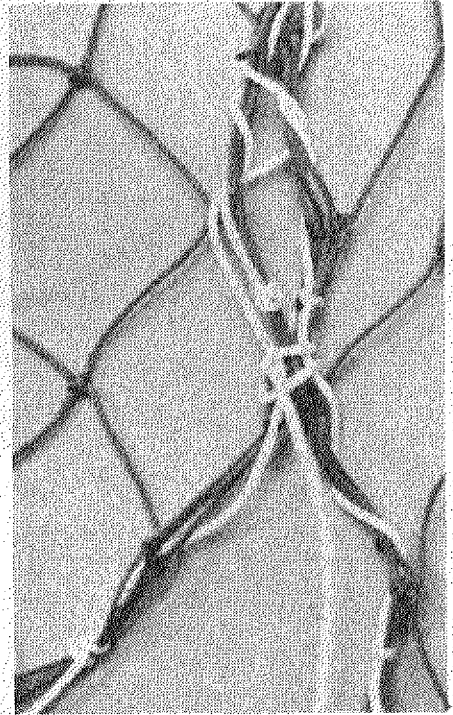

Fig. 10.
The towing bridle, as well as the short bridles between the towing bridle and the plumb staffs (see Fig. 10& 11) are best made of 1/2-inch hard lay (or braided) nylon rope.
*Plumb Staffs*, one at each wing of the net, as shown in fig 10 and 11, should be made of oak, 36 inches by  $2\frac{1}{4}$  X  $2\frac{1}{4}$  inches. If made of soft wood (spruce, hemlock, fir), diameter should be increased to 3 X 3 inches (instead of  $2\frac{1}{4}$  X  $2\frac{1}{4}$  inches). Two  $\frac{1}{4}$ -inch holes are drilled at points P and P 1 through which loops M and N are forced. Approximately 1 foot (12 inches) from the top a snap-hook is fastened to the plumb staff to which a wire or rope grommet (R), rove through a hole in the beam, will be attached.
The *beam*, 30 feet long,  $3\frac{1}{2}$  X  $3\frac{1}{2}$  inches, is tapered slightly towards its ends and has two holes drilled on each end to receive grommet (R) as shown in fig. 10. The beam is detached from the plumb staff when the net is recovered; beam and net are brought onboard separately. Spruce, hemlock or fir may be used; a very useable beam may be made by laminating four (4) 1" X 4" boards together, if a good grade galvanized nail is employed.